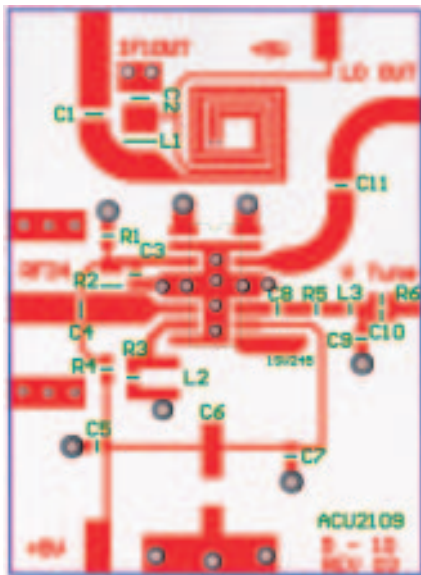

Figure 18: ACU2109 Evaluation Board Top View
- (1) Case temperature is 10 °C higher than Ambient Temperature, when Ambient Temperature is ≤ +65 °C, using PC Board Layout shown in Figures 18 - 19.
(1) Case temperature is $10\text{ }^{\circ}\text{C}$ higher than Ambient Temperature, when Ambient Temperature is $\leq +65\text{ }^{\circ}\text{C}$, using PC Board Layout shown in Figures 18 - 19.
(1) As measured on ANADIGICS Evaluation Board shown in Figures 18 - 19.
(2) 138 channels, 0 dB tilt, +7 dBmV flat
(3) 138 channels, -10 dB tilt, +7 dBmV at 55.25 MHz
(4) As measured in ANADIGICS test fixture, using Anaren 3 dB 180° coupler (part no. 30055) and external bias-tees.
(5) All channels 99% AM modulated at 15 kHz, including adjacents
(6) Two tones, -15 dBm (+33.75 dBmV) each
(7) At 250 kHz comparison frequency, 3 kHz loop bandwidth
(8) Case temperature is $10\text{ }^{\circ}\text{C}$ higher than Ambient Temperature, when Ambient Temperature is $\leq +65\text{ }^{\circ}\text{C}$, using PC Board Layout shown in Figures 18 - 19.